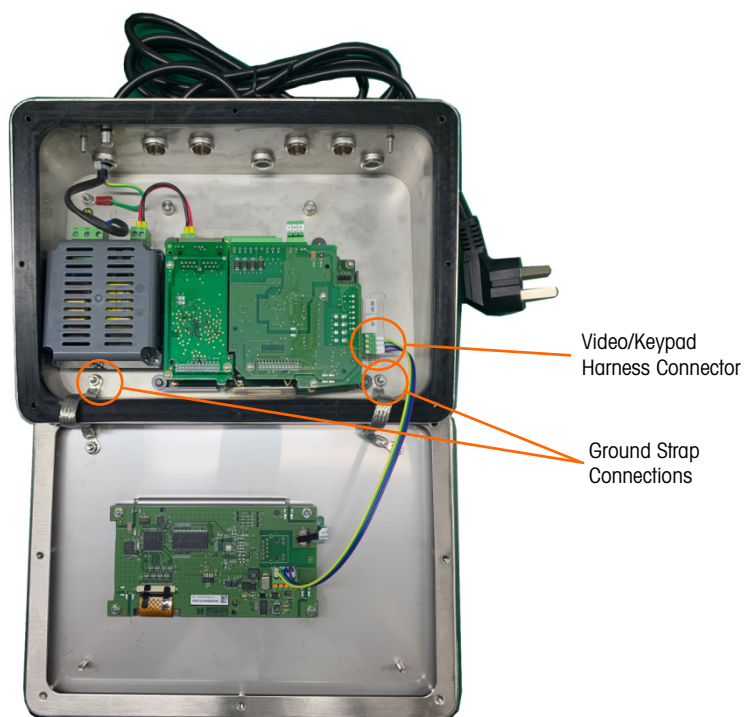

Figure A-20: Loosening the Ground Straps
- b. Loosen and remove the two nuts securing the two grounding straps (which also function as hinges for the front cover) to the terminal module, as well as disconnect the panel display port connector – see Figure A-20.